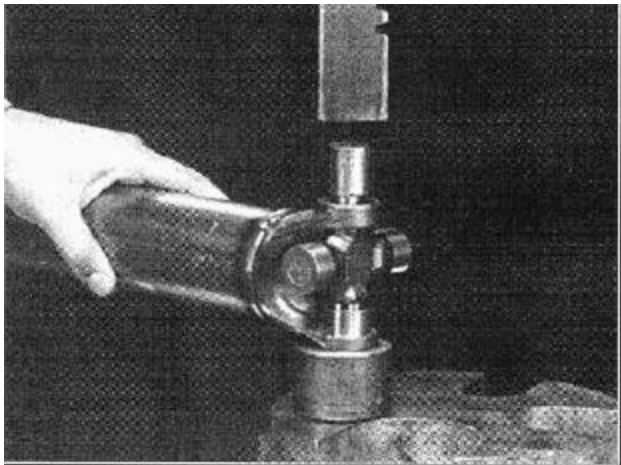

Figure 15 Press Plug Through Upper Bearing Assembly to Release Lower Bearing Assembly
2. Set the yoke in the arbor press with a piece of tube stock beneath it. Position the yoke with the lube fitting pointing up to prevent interference during disassembly. Place a solid plug on the upper bearing assembly and press it through to release the lower bearing assembly (Figure 15).